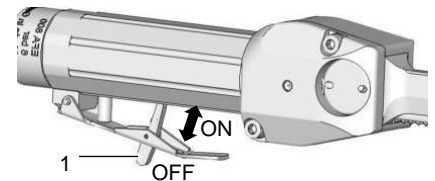

Fig. 6.1 – Operating lever (EFA 800)
The carving knife is equipped with a valve lever (1) for switching the compressed air flow, see Fig. 6.1.